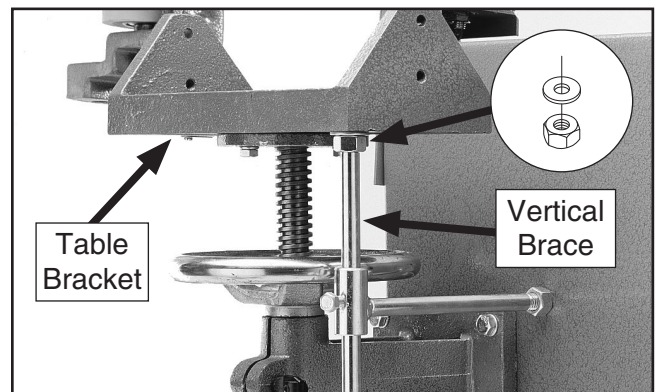

Figure 19. Horizontal/vertical brace installed.
8. Insert the vertical brace through the shaft at the end of the horizontal brace (**Figure 19**), then rotate the horizontal/vertical brace assembly to 90° . Do not tighten the fasteners yet.